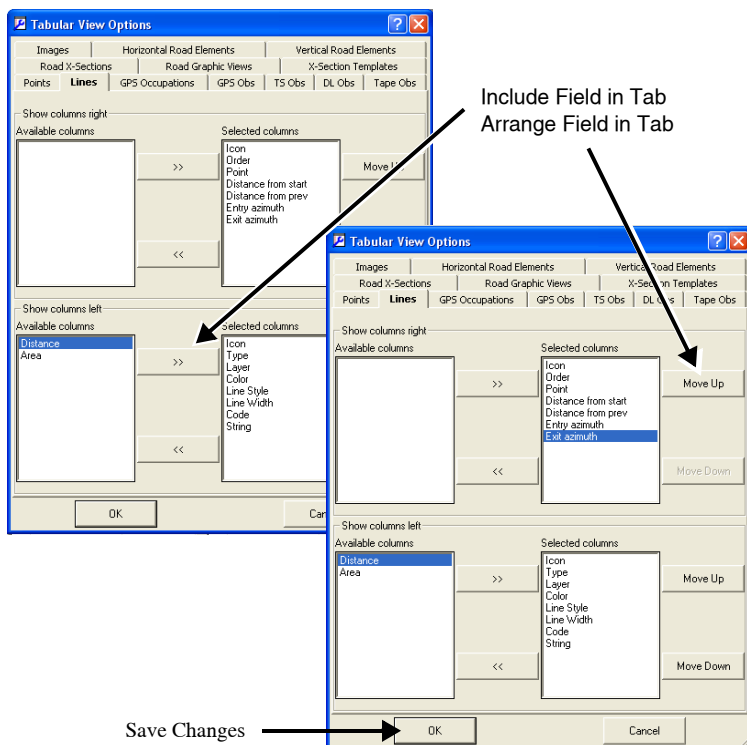

Figure 3-14. Lines Tab Options – Editing Data Columns
3. For most of the tabs, select the desired field and use the following buttons to set up the data columns. Figure 3-14 on page 3-16 uses the Lines Tab options as an example.
Table 3-2 shows an example of, and the default settings for, each of the Tabular View options tabs. See Figure 3-14 on page 3-16 for an example of the Lines options tab.